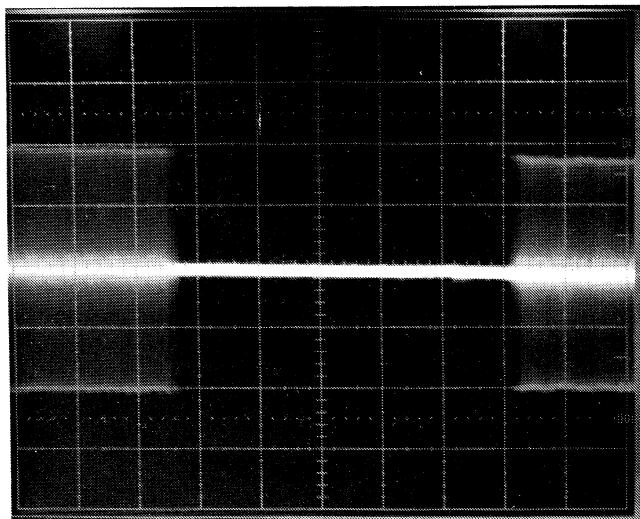

Figure A-3 550 μ s Gap Display
5. Observe that the gap width is 550 (± 50) μ s (Figure A-3). If the gap meets specifications, proceed to step 8.